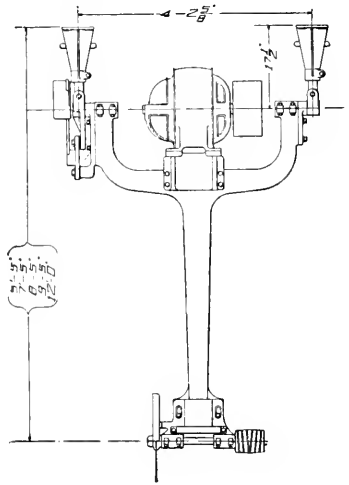

FIG. 1.— SWING CUT-OFF SAW.
**2.-- General** The swing cut-off saw, Fig. 1, is supported from the wall and ceiling and has a large counterweight to pull it back to the wall after making a cut. The frame is of heavy cored construction and rests against the wall back of the table when not in use. The table has rollers, the face of which are slightly higher than the table. This is done in order to make it easier to move the stock while working at the saw. The motor rests in the top of the frame and drives the saw by means of an endless belt. In the best types of saw the construction is such that the belt can be tightened without cutting it. Figures 1 and 2 show the slotted holes just above the arbor which permits of this adjustment. Another advantage of this construction is that the saw arbor may be removed from the frame for rebabbiting the bearings.